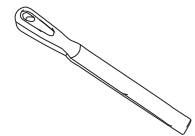

**Fig 13**
The **Guide Rail (#04)** is 1" less than the model size, and will need to be **cut to 1" less than the finished opening size (W)**. (Fig 13)
**Finished opening (W) - 1" = finished cut length**